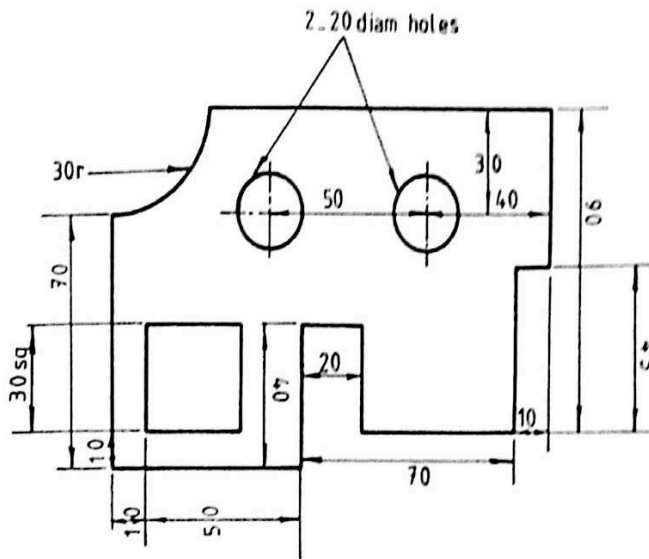

FIG. 4
- (a) Fig. 4 shows an incorrectly dimensioned template. Assume all numerical values to be correct.